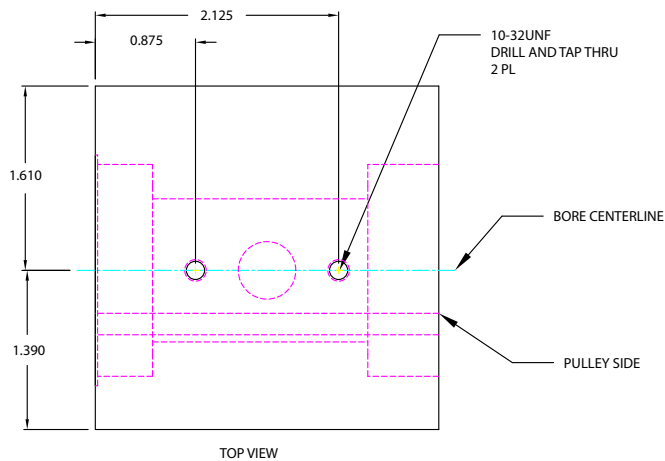

FIGURE 8—3C Headstock (P/N 40105).
**NOTE:** If this is for an older machine that does not have these holes drilled and tapped, you will need to drill and tap them in the positions shown below on the print copy. The area where the holes will break through is an open cavity inside of the headstock, so there is no chance of any damage to the bearings or other parts (see Figure 8 and 9).